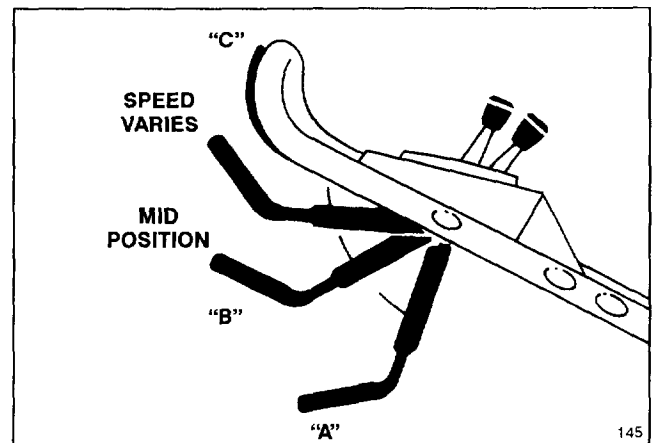

Figure 8
(Fig. 8)—Move control bar down to "A" and raise to "B" to engage blade. Squeeze control bar against handle "C" to drive. To disengage traction drive but keep blade engaged, gradually release control bar to mid position. To self-propel with blade disengaged, simply squeeze control bar against handle, eliminating downward movement necessary for blade engagement.
7. **STOPPING** (Fig. 8)—Release control bar to stop blade and traction drive. Move ground speed control to "N". To stop engine, move throttle to **OFF**. Remove key from switch on electric start model. Pull wire off spark plug if mower will be unattended or not used.